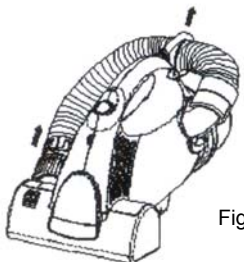

Fig. 3
2. Remove the flexible hose from the brush chamber exhaust port and take the hose out from the hose holder. (fig. 3)